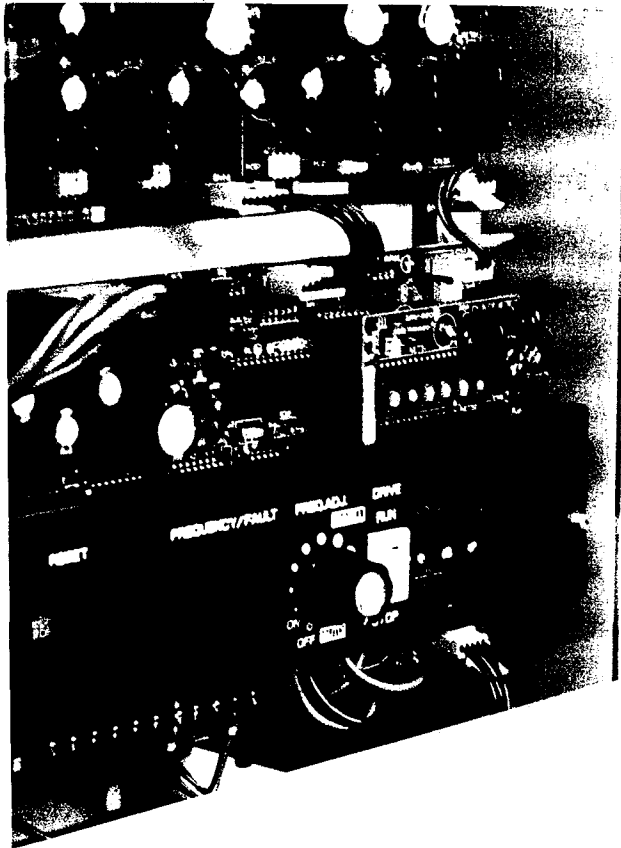

FIGURE 6.
16. See Figure 6. The modification PCB should now be flush against the spacer. Secure the modification PCB to the spacer, using the remaining set of attaching hardware.